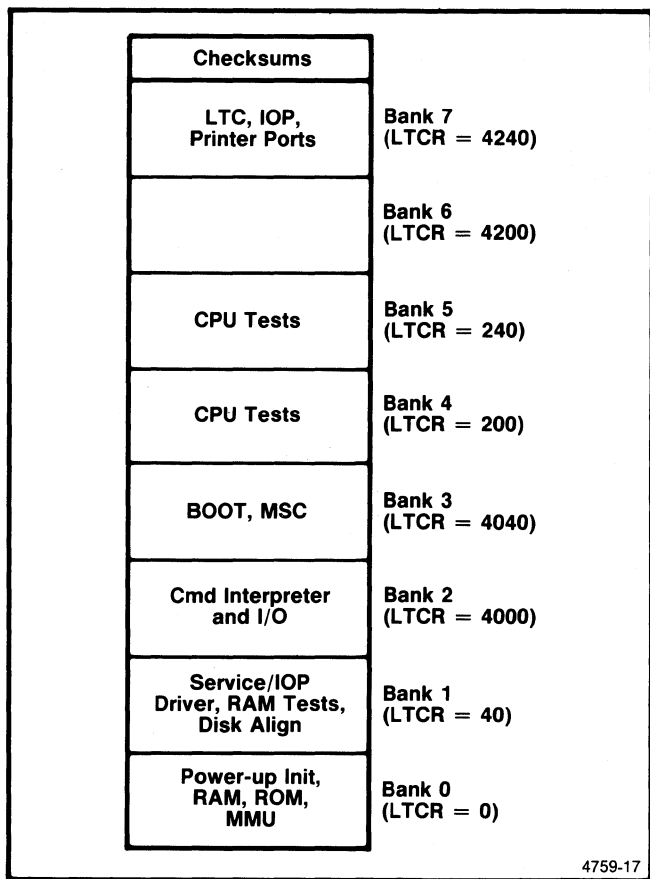

Fig. 5-17. Diagnostic and Bootstrap ROM functions.
U5080 and U5090 provide read-only memory storage for boot instructions and power-up diagnostics. These devices contain 4K words of diagnostic and bootstrap memory at octal addresses 17773000 through 17774776. The ROM is divided into four banks. Figure 5-17 shows the memory bank division. Bits 5 and 11 of the LTC Status Register determine which bank is addressed. ROM is addressed using address lines A0(H) and A8(H).